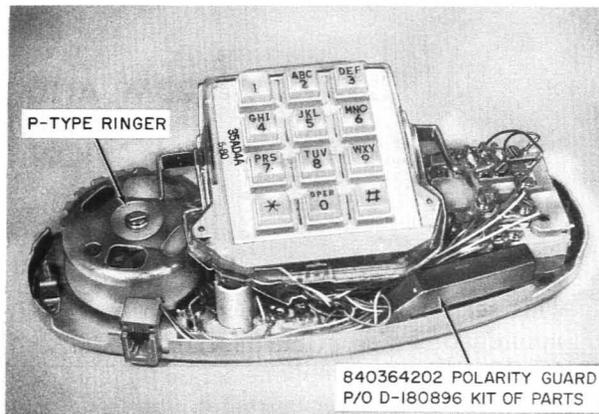

Fig. 3—2702BMG Telephone Set (Current Version), Housing and Handset Removed
2.01 The 2702B (MD) (Fig. 1), 2702BM (Fig. 2), and 2702BMG (Fig. 3) telephone sets are primarily intended for individual, 2-party flat rate or 2-party message rate service. ♦The 2702BM sets manufactured after June 1, 1982 are marked "1-PTY" on or near the date code. These sets cannot be used for multiparty service connections or wired for A-lead control. If service other than individual or bridged ringing is required, a 2702B2M or 2702B2MG base, housing, and handset must be ordered separately. ♦
(1) Remove housing.
(2) Connect polarity guard per Table E and position polarity guard as shown in Fig. 3.